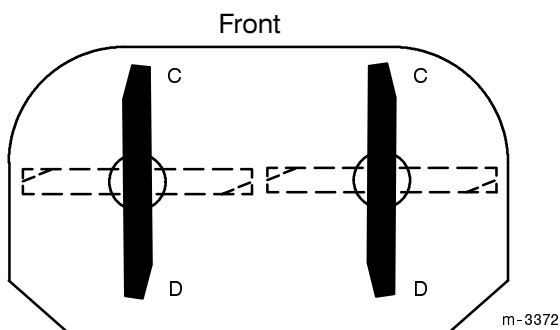
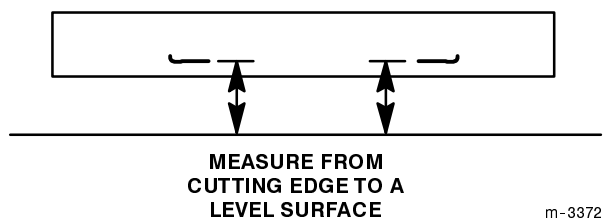

Figure 29
Figure 30
2. Position the blades front-to-rear (Fig. 29). Measure at “C” and “D” locations (Fig. 29) from a level surface to the cutting edge of the blades (Fig. 30).